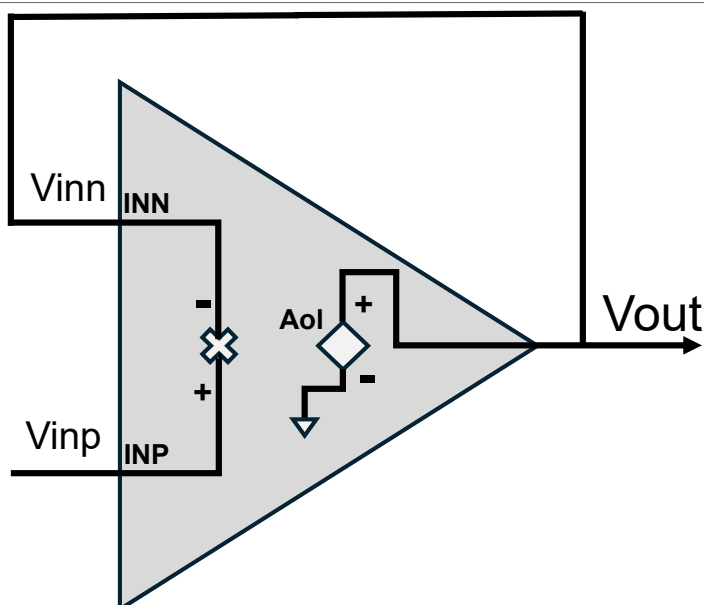

Figure 3. Voltage follower circuit of OPAMP
Figure 3 shows the voltage follower circuit for OPAMP. In this OPAMP use case, the input signal is connected to V_{inp} , and the relationship between V_{inp} and V_{out} is shown in Equation (8):